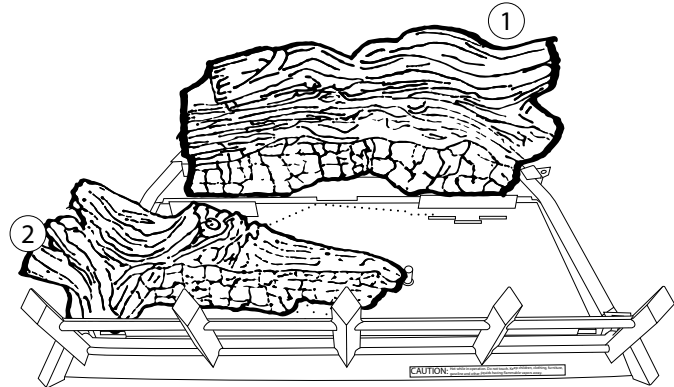

Figure 44
2. Place the front left log (#2) on the pin located on the left side of the burner. (See Figure 44.)